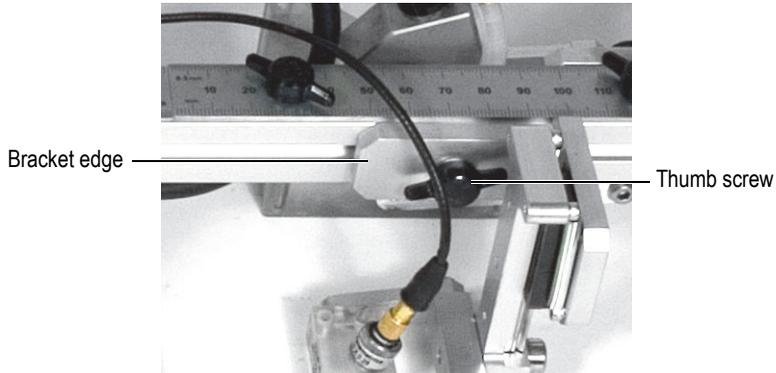

Figure 2-11 Adjusting the probe position
- a) Loosen the thumb screw that secures the probe-holder bracket to the scanner frame (see Figure 2-11 on page 26).